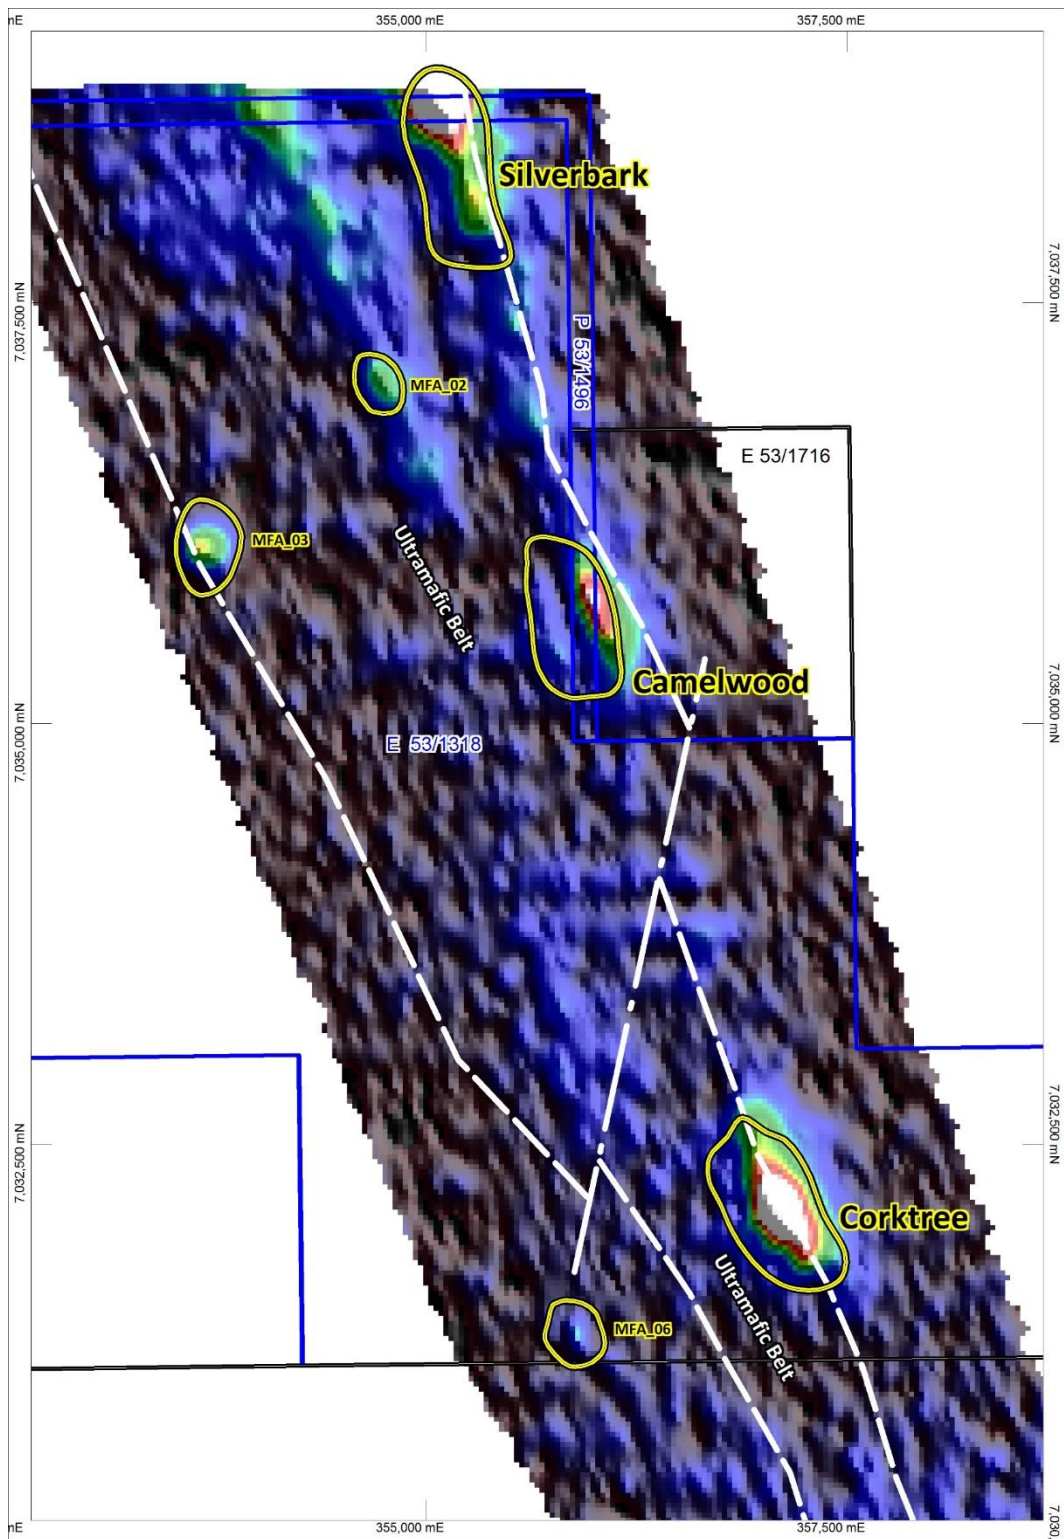

Figure 3: Fisher East VTEM showing strong anomalies at Silverbark, Camelwood and Corktree
- To test a very strong 1km long EM conductor at Corktree (Figure 3), detected from surface, but not previously effectively drill tested.